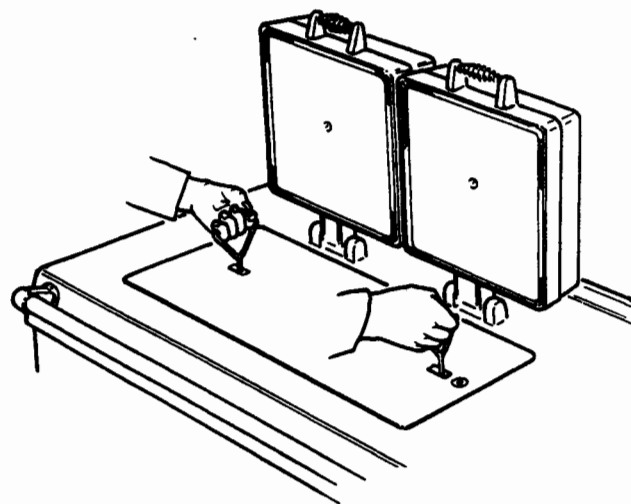

FIG. 8
SEE FIG. 8 & 9
4. Lift up the insulating covers and remove the hotplate using lifting hooks provided (See Fig. 8).